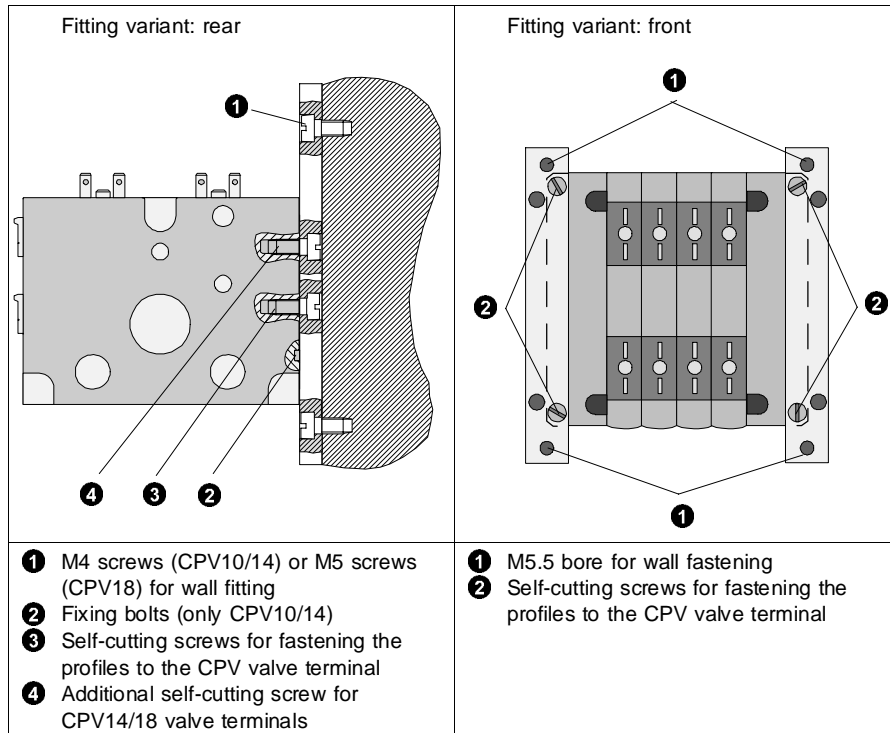

Fig. 2/2: Fitting the CPV valve terminal onto a wall
- Make sure that there is enough room to connect the power cables and the pneumatic tubing. In the case of front fitting, a suitable spacer or cutout section must be provided to permit access to the electrical connections (see Fig. 2/3).